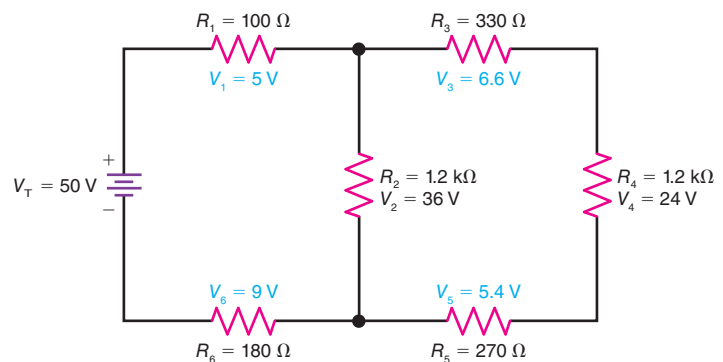

Figure 13-19 Circuit diagram. Normal operating voltages are shown.
Table 13-2 Voltage Measurements Taken in Fig. 13-19
13.17 Table 13-2 shows voltage measurements taken in Fig. 13-19. The first row shows the normal values that exist when the circuit is operating normally. Rows 2 to 13 are voltage measurements taken when one component in the circuit has failed. For each row in Table 13-2, identify which component is defective and determine the type of defect that has occurred in the component.